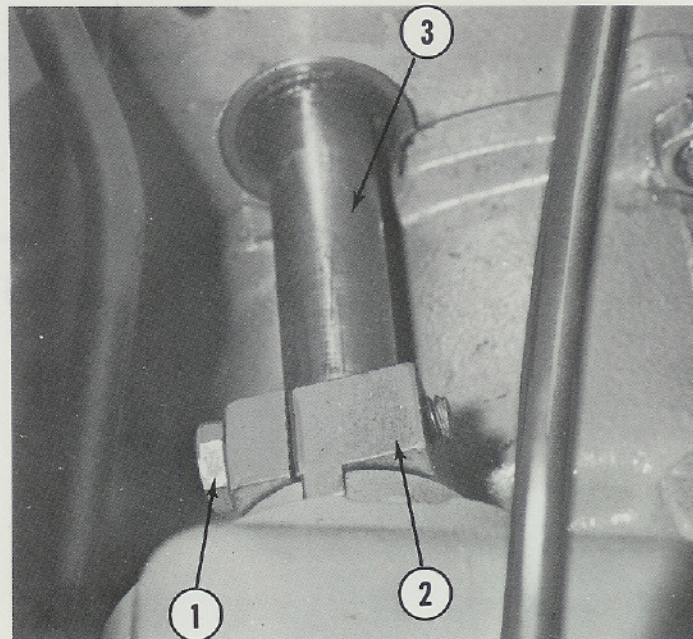

Figure 9
1. Loosen magneto coupling nut (1, Figure 9) until the coupling slips on the camshaft. It may be necessary to tap the coupling gently.
6. Be sure that there is at least .015 inch (.397mm.) end play in the magneto coupling so it will not clamp the impulse. Use feeler gauge between the fiber block (2, Figure 9) before tightening nut. Tighten nut.